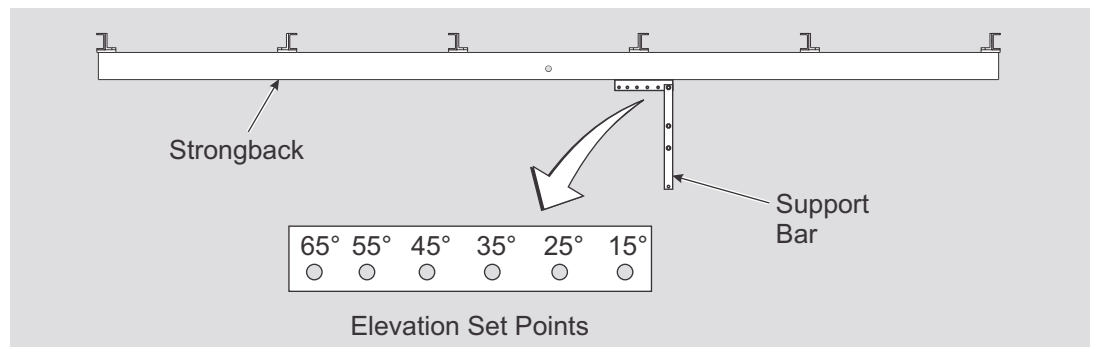

Figure 7-2: Setting the Tilt Angle
- B. Tilt the rack to the desired elevation angle (15°, 25°, 35°, 45°, 55°, or 65°) and re-attach the Support Bar to the Strongback placing the 1/2" hardware in the appropriate hole matching the desired elevation. **Torque to 72-80 ft.-lbs.** (See Figure 7-2)